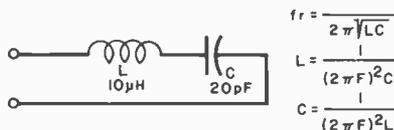

Fig. 8. Values of L and C determine resonant frequency.
**Resonance Formulas.** Whenever a capacitor and an inductor are connected together in series or parallel, they will resonate at a frequency determined by the  $L$  and  $C$  values. The basic equation for determining resonance ( $f_r$ ) is given in Fig. 8, as are the equations for determining the  $L$  and  $C$  values when  $f_r$  is given.
Now, what is  $f_r$  for the Fig. 8 circuit? To solve this problem, make your keyboard entries as follows:
Fig. 8 for determining the value of L,